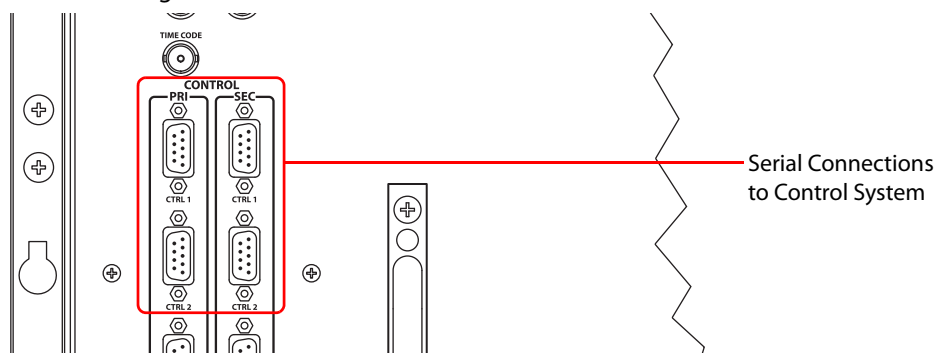

Fig. 4-6: Serial connections to the router control system (Rear View)
- 1 Face the rear of the router frame. The serial connector are in the 'Control' connector group, as shown in Figure 4-6.